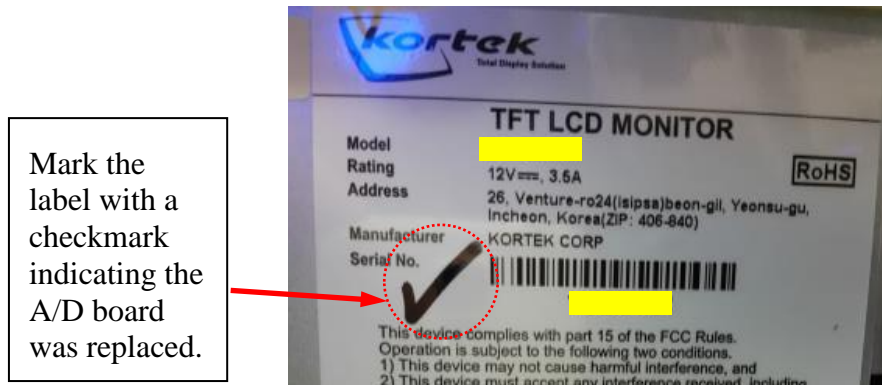

Figure 3.
- 8) Use the black Sharpie marker to mark the manufacturer label with a check mark next to the serial number to indicate the defective A/D board has been replaced. See Figure 3.